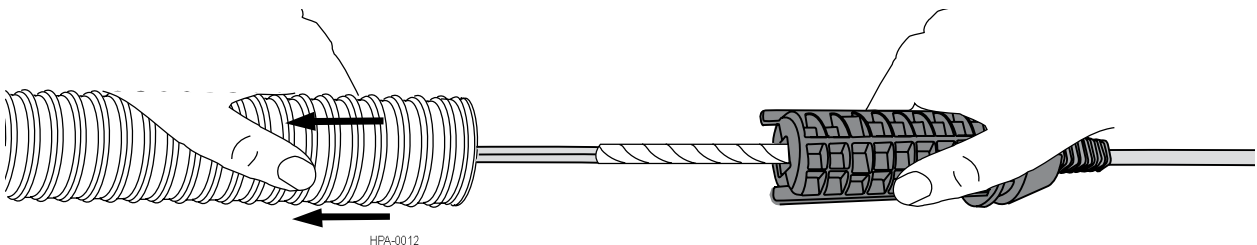

Figure 8 — Tubing Removal
Step 5: Slowly slide the tubing away from the coupler and its connector legs (Figure 8).